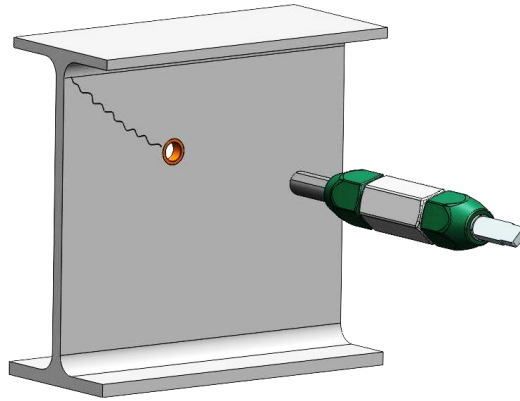

Figure 5.3-3
2. Verify cold expansion of bushing with plug gage end of the combination gage BTCG-1533-A-0 as shown in Figure 5.3-3. If the plug gage does not fit into bushing ID, then this installation has not been expanded properly. Here are a few possible scenarios: